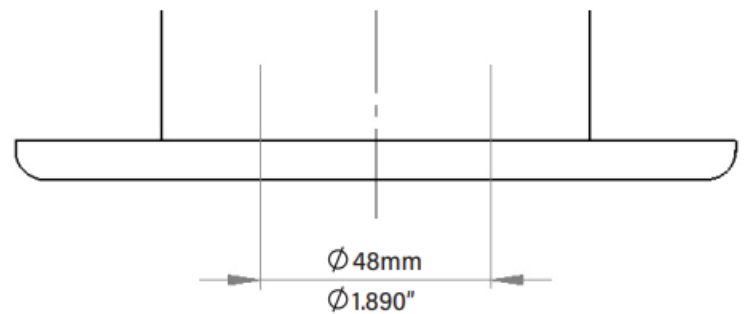

Figure 2
- Ensure this area at the base of the buffer, shown in figure 2 is supported.